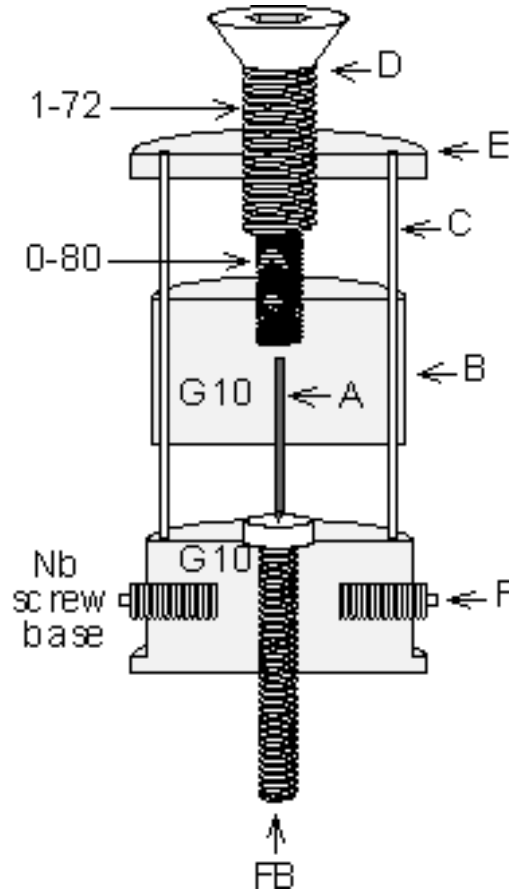
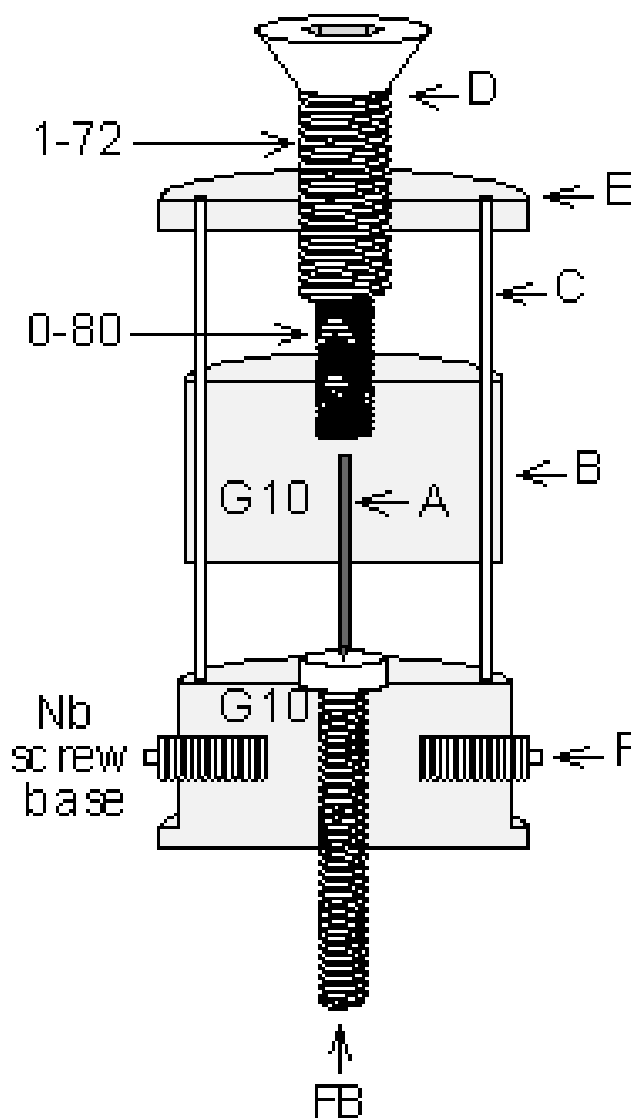
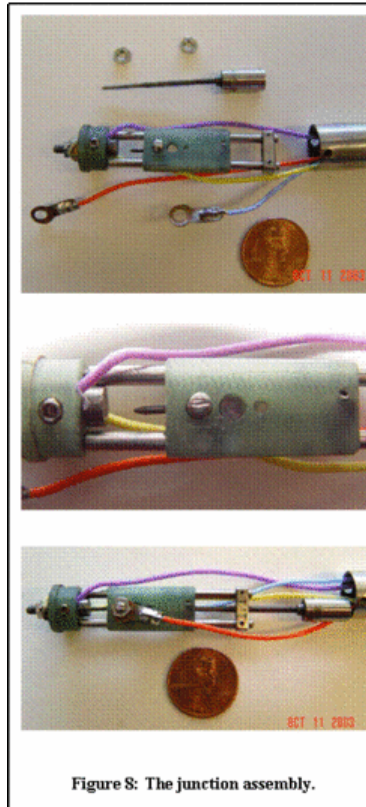
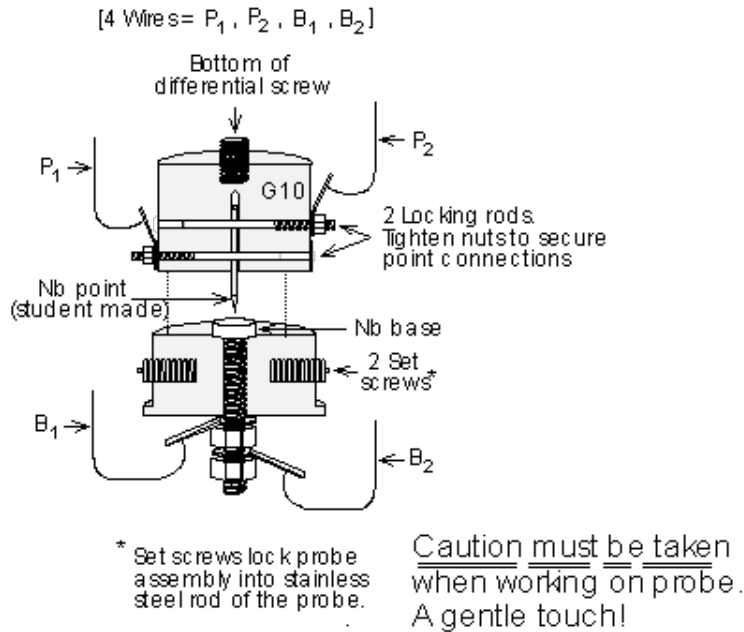

Figure 9: Junction Assembly
Figure 9 (again): Junction Assembly
Figure 15: The Junction Assembly
Figure 16: Details of Point Holder Construction
The junction is mounted in an assembly shown in Figure 9. To adjust the pressure in the junction, we use a mechanism called a *differential screw* (D), which moves the niobium needle point towards the niobium base screw (FB) with a great deal of control. The needle (A) fits into a hole in a form (B) made of a kind of fiberglass called “G10.” The needle is held in place by two screws (not shown in Figure 9 [see Figure 16]).
This is the most delicate part of the lab. Please work over a clean surface, exercise caution, use your good judgment, and consult the lab staff if you have any uncertainty about what to do. Please refer to Figure 9, repeated here for your reference, as well as photographs of the junction assembly in Figure 15.
1. First back off the differential screw (D) until it comes out of the housing.
2. Loosen the nuts associated with the screws (See Figures 15 and Figure 16) which have solder lugs attached to them, in piece (G10). You usually don't need to remove the nuts entirely (and its easier if you don't).
3. Using small needle-nose pliers, gently pull the needle out of the housing (B). You can prevent the screws from falling off by placing two fingers on opposite sides of the assembly applying a slight amount of pressure on the screws with each finger to still be able to remove the old point. Keep your fingers held in place with your fingers until you install the new point. If the screws come off, worry not, instructions on how to install them back and fast will be provided to you below. Do this over a clean surface because the screws will probably fall out as you remove the needle.
2. Thread the new point through the lower screw shaft, making sure the solder lug corresponding to P1 is properly attached (see Figure 16; note that the wires are color coded).